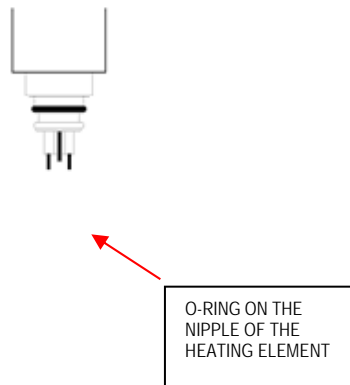

Fig. 2
1. Switch off the mains. Check the O-Ring on the nipple of the electric heating element is correctly inserted in the groove and it has no defects and damages - Fig. 2 (otherwise, replace it).